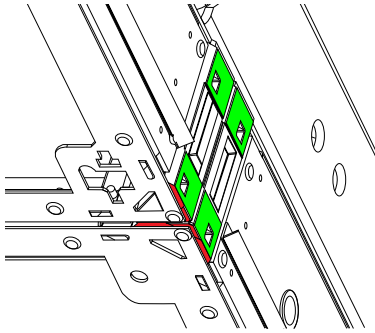
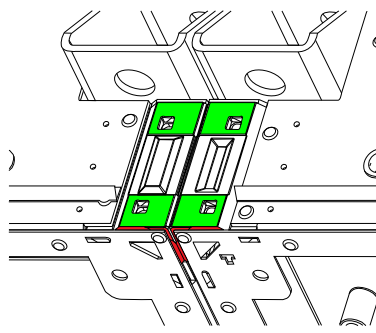

Figure 4: Inspecting Corner Blocks (Side View)
Figure 5: Inspecting Corner Blocks (Top View)
6. Inspect the corner blocks on the installed sections visually to ensure the faces shown in **Figure 4 on page 2** and **Figure 5 on page 2** are flush and aligned.
5. Inspect the corner blocks on the installed section visually to ensure the faces shown in **Figure 4 on page 2** and **Figure 5 on page 2** are flush and aligned.